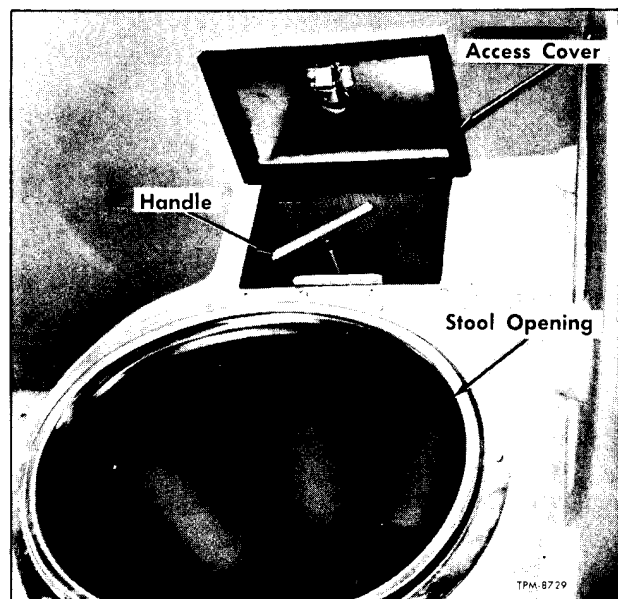
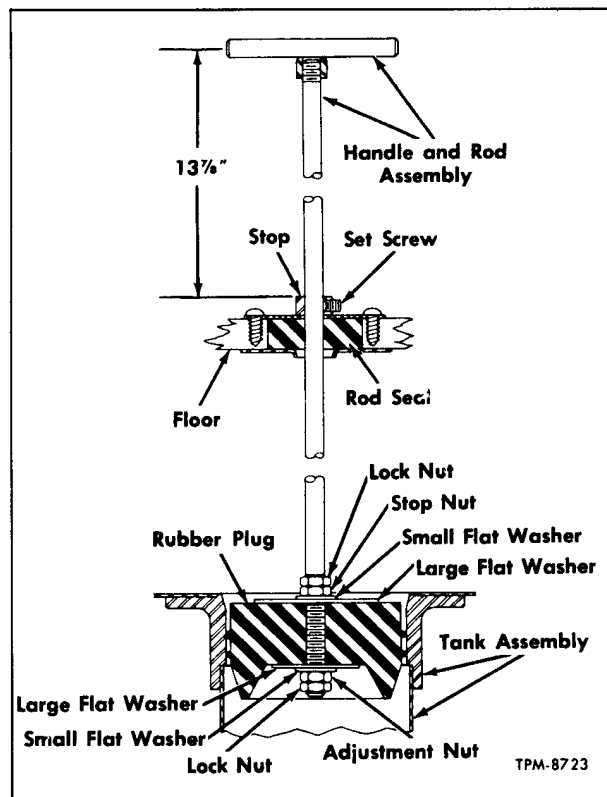

Figure 65—Access to Chemical Tank
Figure 66—Chemical Tank Drain Plug
2. In lavatory compartment at front side of stool cover, unlock and open the chemical tank drain plug handle access cover (fig. 65). Pull handle up approximately six inches as shown; this action lifts large rubber drain plug (fig. 66) from opening in bottom of tank and permits tank to empty.
1. Press chemical tank drain plug handle (fig. 65) down until handle rod stop is seated firmly to top of tank. This action will position drain plug into tank drain opening as shown in figure 66.
Adjustment is made underneath coach at lower end of drain plug (fig. 66).